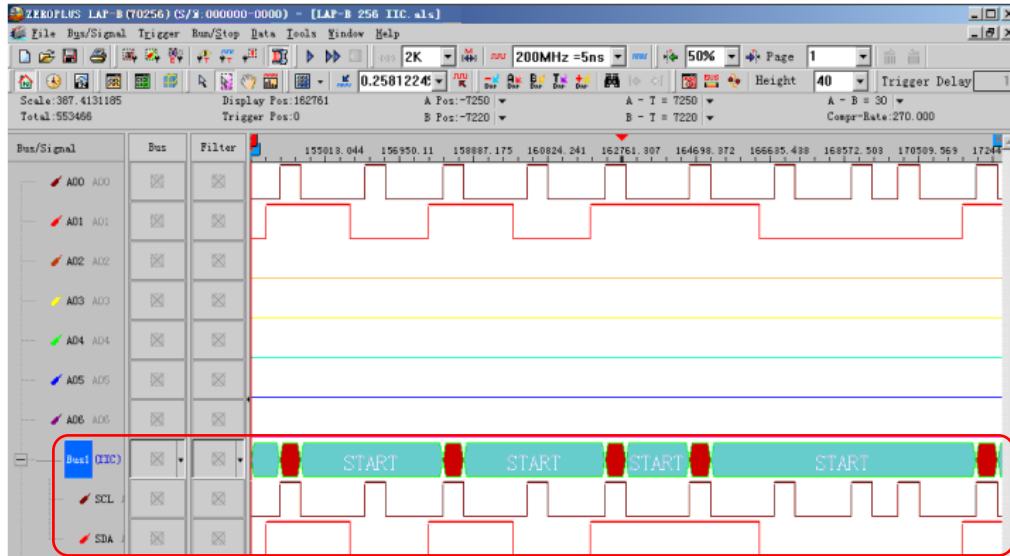

Fig 4-72 – Waveform Analysis
Step 7. Click **Custom Setting** to define the IIC Data to meet users' requirements. The dialog box as shown in Fig 4-72 will be displayed.